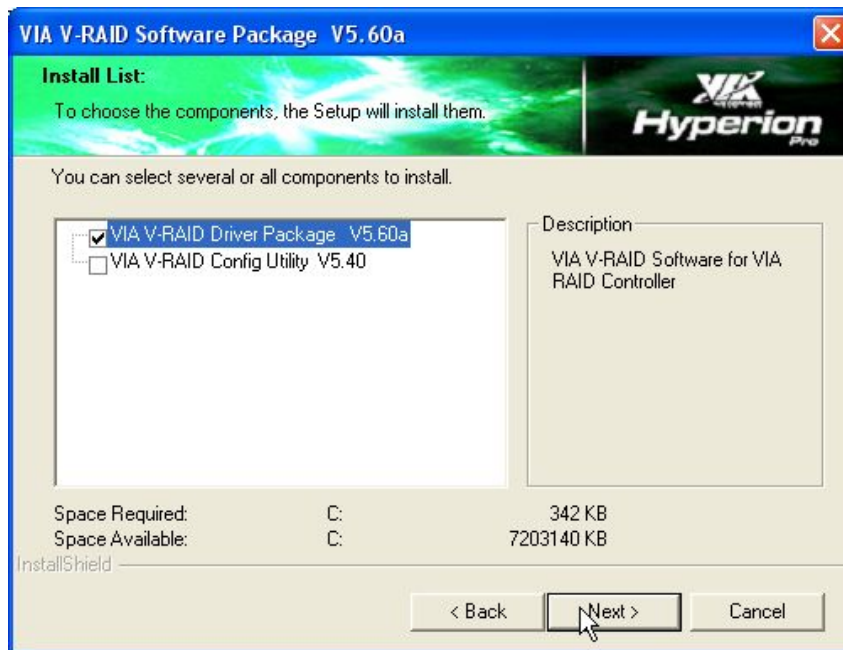

Figure 7-32: Components to Install
Step 6: Select the components to install. Click **NEXT** to continue the installation (**Figure 7-32**).